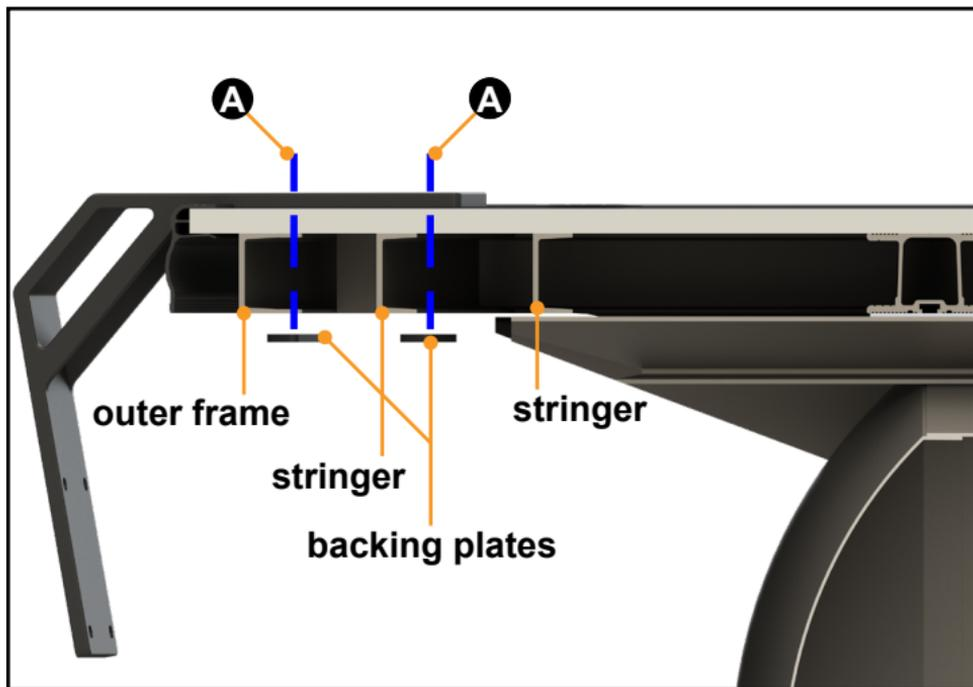

Fig. 3
B. Use the included backing plates (Figs. 3 and 4) for added support.